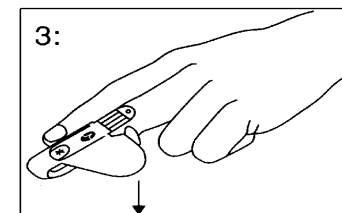
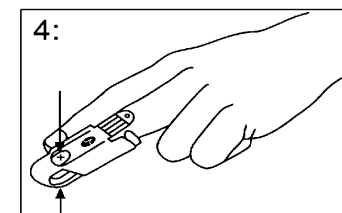

Fig. 33 Fixing of the emitter
Fig. 34 Correctly attached sensor: emitter and detector are aligned!
2. Next, wrap the sensor with the emitter (\*) and finger design over the fingernail and secure the wings down one at a time around finger (Fig. 33). When properly applied, the emitter and the detector should be vertically aligned as shown in (Fig. 34). Check position of sensor to verify correct positioning and reposition if necessary. Complete coverage of the detector window is needed to ensure accurate measurements.